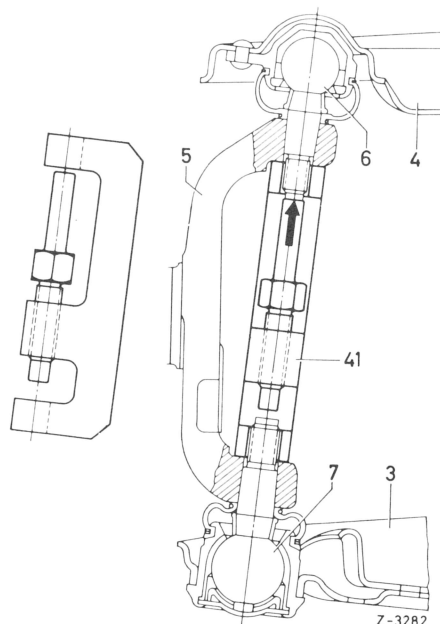

Fig. 6
- 4 Unscrew hex. nut on supporting joint (7) and on guide joint (6).
- 5 Remove supporting joint and guide joint with remover (41) from steering knuckle (Fig. 6). Remove steering knuckle.